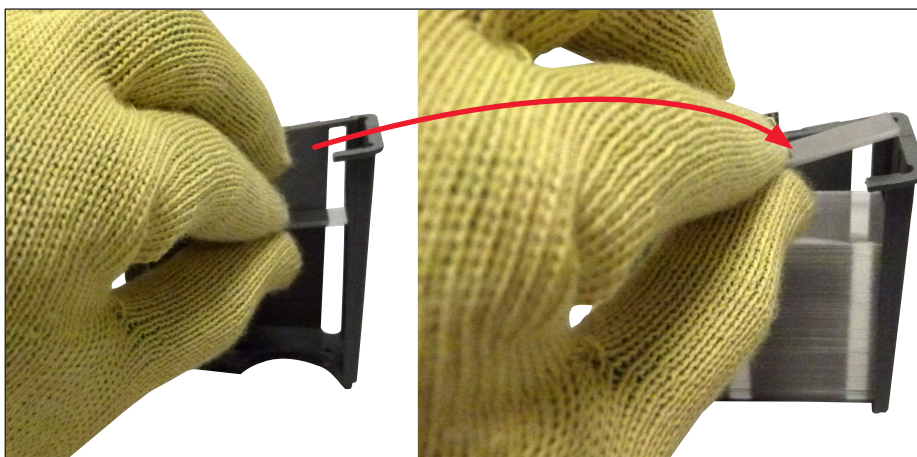

Fig. 65
- Ensure that the coverglass is inserted correctly in the magazine (→ Fig. 65).